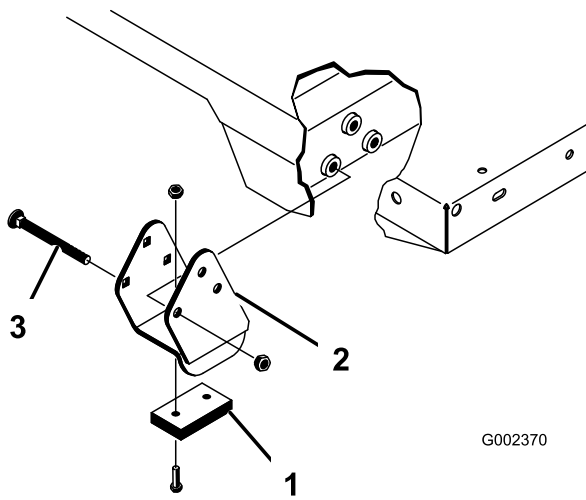

Figure 22
Ensure that the spacer brackets and wear blocks (Figure 22) are installed with the carriage-bolt heads positioned inside the machine.
2. Carefully set the bed onto the machine frame, aligning the rear bed pivot-plate holes with the holes in the rear frame channel, and install the 2 clevis pins and lynch pins (Figure 22).
4. Insert the clevis pin from outside of the bed with the lynch pin oriented toward the outside (Figure 22).